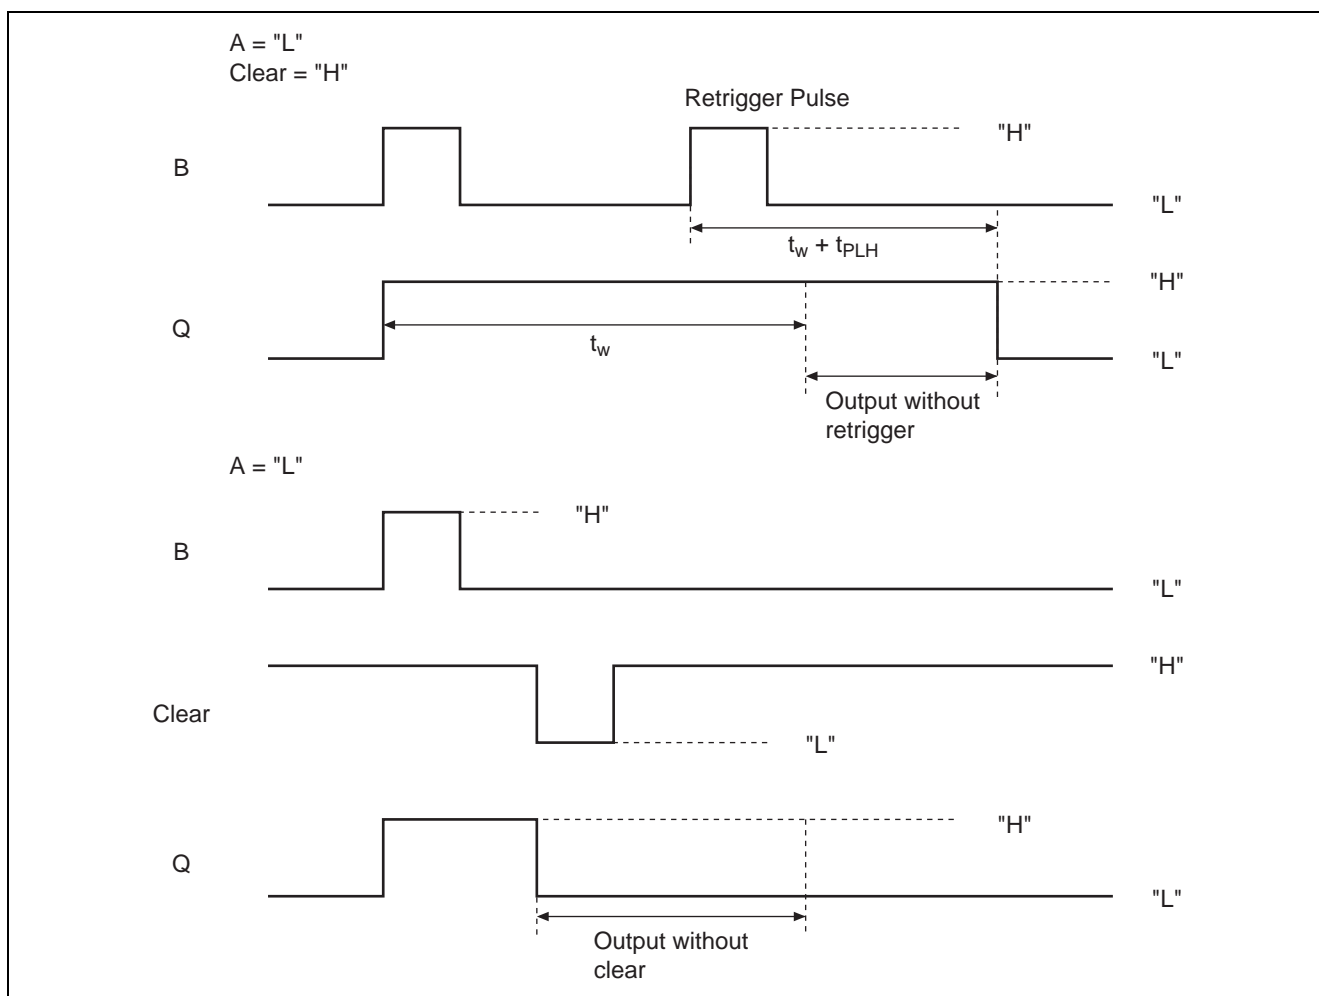

Figure 1 Typical Input / Output Pulse
This d-c triggered multivibrator features output pulse width control by three method. The basic pulse time is programmed by selection of external resistance and capacitance values. The HD74LS122 has internal timing resistor that allows the circuit to be used with only an external capacitor, if so desired. Once triggered, the basic pulse width may be extended by retriggering the gated low-level -active (A) or high-level active (B) inputs or be reduced by use of the overriding clear. Figure 1 illustrates pulse control by retriggering and early clear. This device is provided enough Schmitt hysteresis to ensure jitter-free triggering from the B input with transition rates as slow as 0.1 mV/ns.